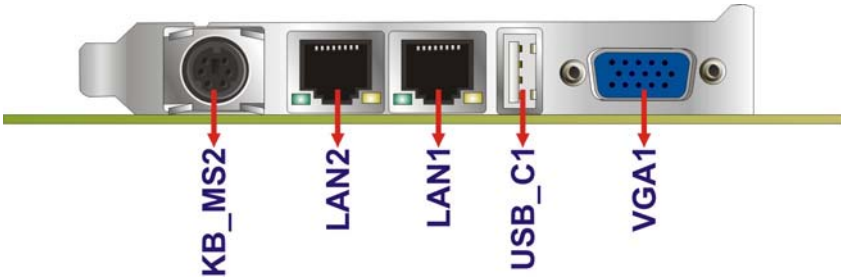

Figure 3-25: External Peripheral Interface Connector
- CN Location:** See Figure 3-25
CN Location: See Figure 3-25
- CN Location:** See **Figure 3-25**